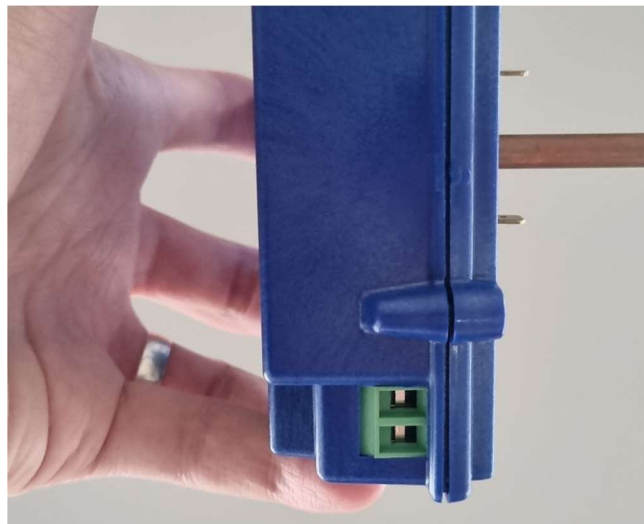

Figure 4.5. STEP 12b: Rotate the Elon Smart 90° in the thermostat pocket to make the AC wires easier to insert.
- b. The wires are easier to insert if you rotate the Elon Smart 90° in the geyser socket. This gives a clear view of the screw terminals cage clamp (see **Figure 4.5**).